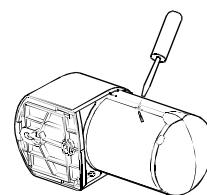

Fig. 1
1. Remove the battery cover with a flat screwdriver. Fig. 1
4. Replace the battery cover. The cover is the right way round when the screwdriver symbol is located opposite the screwdriver recess. Fig. 1